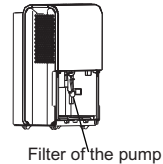

Fig.12
- Remove the bucket from the unit, take down the pump and clean the filter of the pump (See Fig.12).